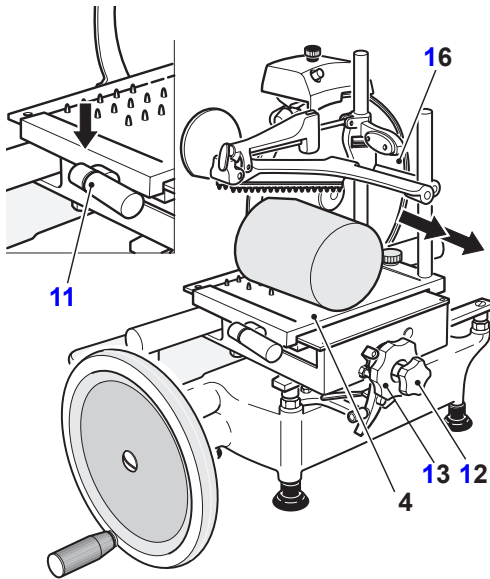

Figure 12-1
8. Turn the product holder operating handwheel (12) clockwise or gently press down on the fast forward lever (11) to move the product holder (4) away from the knife (16) (Figure 12-1).